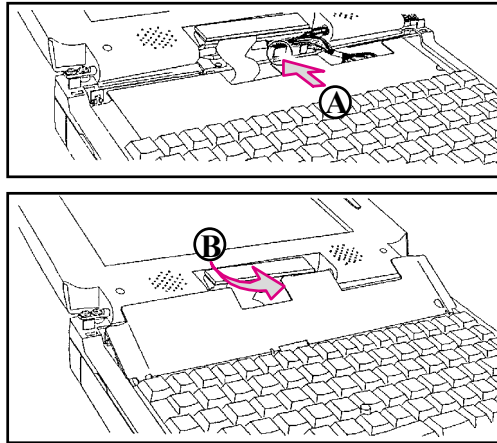

FIGURE 5-3
3. REMOVE THE SHIELD PLATE BY PRESSING IN THE TAB (FIGURE 5-3 A).AND
PRYING UP THE SHIELD PLATE (FIGURE 5-3 B)